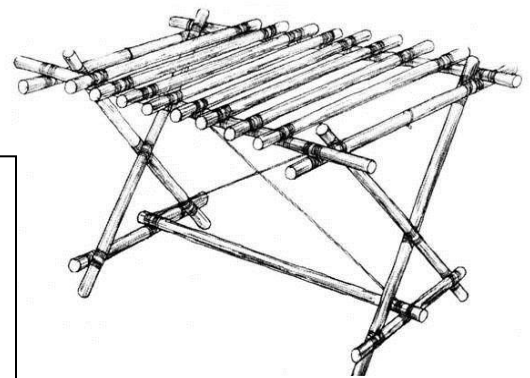

Figure 4
4. Make ~3 *frapping turns* between each pole. (figure 4 & 5)
- Finish with a clove hitch (figure 4).
5. Finish with a square knot or clove hitch and spay legs open (figure 4).